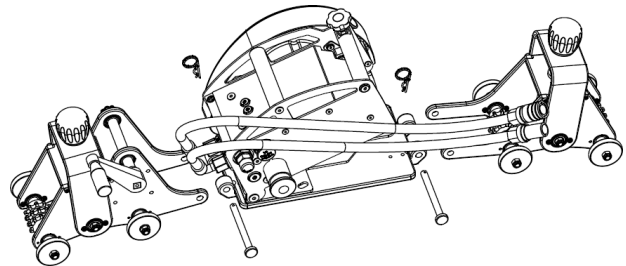

FIGURE C1
- Route the chain through carrier as in the picture (FIGURE C1), over the center sprocket and under wheel axles. Do this for both carriers.